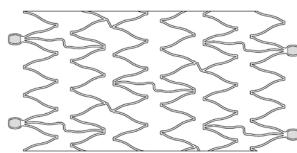

Figure 2 – Nitinol Stent
- Enlevez le verrou de transport (Figure 2).
- An implantable self-expanding nickel-titanium alloy (nitinol) stent, as shown in Figure 2. The stent is flexible, a fine tubular mesh prosthesis, with a helical design, which achieves its unconstrained diameter upon deployment into the target vessel. Upon deployment, the stent imparts an outward radial force on the luminal surface of the vessel to establish patency.